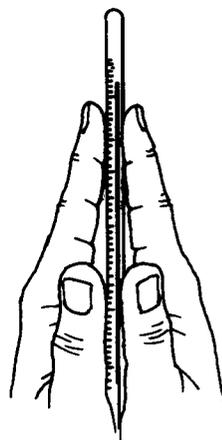

Figure 6-8
7. Place the palms of your hands together with the bulb end of a thermometer between them. Hold the thermometer between your thumb and forefinger (Fig. 6-8). Record in Table